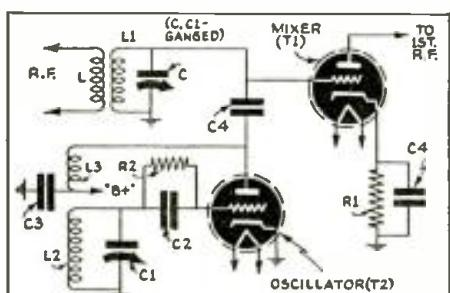
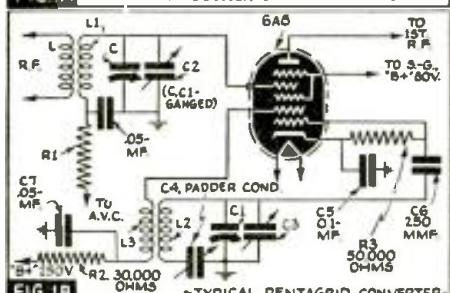

FIG. 1A ~INDIVIDUAL OSCILLATOR-MIXER CIRCUIT~
FIG. 1B ~TYPICAL PENTAGRID CONVERTER~
In Figs. 1A and 1B are shown methods whereby the tube impedance may be reduced relative to the circuit impedance. In 1A is shown a Hartley-type oscillator, with one side of the circuit grounded and the tube connected across the entire circuit in the usual way. In 1B the tube is tapped down into the coil and includes only a portion of the circuit. For the circuit of Fig. 1A the factor $(N_2/N_1)_t$ is equal to unity (1). In Fig. 1B the same quantity can become as small as 0.05. The reduction applies not only to temperature effects but in general to all influences of the tube on the oscillator frequency.
(1) A Mixer tube, either a triode, tetrode or pentode, and an Oscillator tube; the oscillator and signal voltages are applied to the same grid. The 2 circuits may be coupled by a condenser (capacity-coupled, through C4) as shown in Fig. 1A; or they may be inductively-coupled by suitable mechanical relation of the inductances L1 and L2, L3. This method was very common prior to the introduction of special tubes for this application.
(2) A Pentagrid Converter Tube may be used, wherein the oscillator tube and mixer tube are combined in 1 shell and the 2 circuits electron-coupled, as shown in Fig. 1B.
If a 1-mf. condenser is connected to the primary of an ideal transformer having a primary-to-secondary turns ratio of 1:2, the secondary will behave like a 4 mf. condenser! See Fig. 1A. In other words, if the primary of the transformer "looks into" (connects to) a 1-mf. condenser, the secondary will be looking out of (appear to be connected to a reflected) 4-mf. condenser. (If the turns ratio was 1 to 1, then the secondary would be looking out of a 1-mf. condenser.)
Likewise, if an inductance of 1 henry is connected to the primary of this same transformer, the secondary will exhibit an inductive reactance equivalent to 4 henries. See Fig. 1B. Assuming that the transformer itself is ideal (has an infinite inductive reactance), its secondary will become decidedly frequency-discriminating inductively, and present a high impedance at high frequencies; and a low impedance at low frequencies.